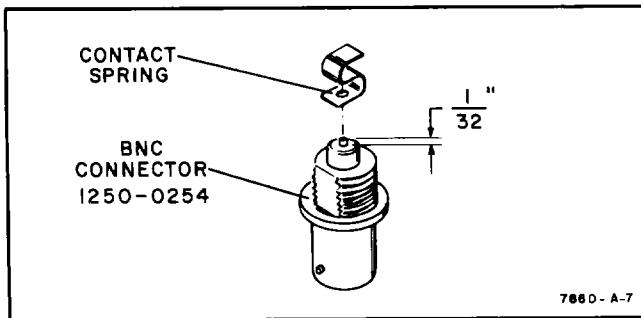

Figure 7. 11523A BNC Assembly
- (1) Cut center conductor lead to approximately 1/32 inch (refer to Figure 7).
- (2) With flat file, smooth end of lead; wipe off burr with tweezers or similar metal instrument.